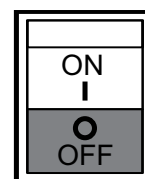

Figure 19. Idle Control Switch (OFF)
8. Place idle control switch (Figure 19) in the **OFF** position. This will allow the engine speed to run at about 3600 RPM's (*high speed*).
Placing the idle control switch in the **OFF** position (Figure 19) allows the engine to operate at a maximum speed of about 3600 RPM's.